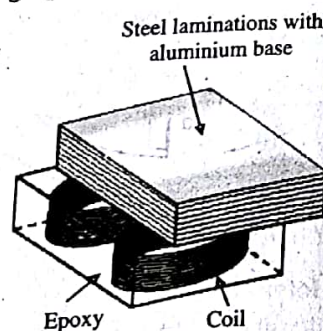

Figure 6.7
- 5) **Slotless-Iron Flat Motor:** The slotless-iron flat motor is similar in construction to the slotless-ironless motor except the coils are mounted to iron laminations and then to the aluminium base. Iron laminations are used to direct the magnetic field and increase the force. Due to the iron laminations, an attractive force is now present between the forcer and the track and is proportional to the force produced by the motor. As a result of the laminations, a cogging force is now present on the motor. This motor design produces more force than the ironless designs. Figure 6.7 shows that slotless from flat motor.